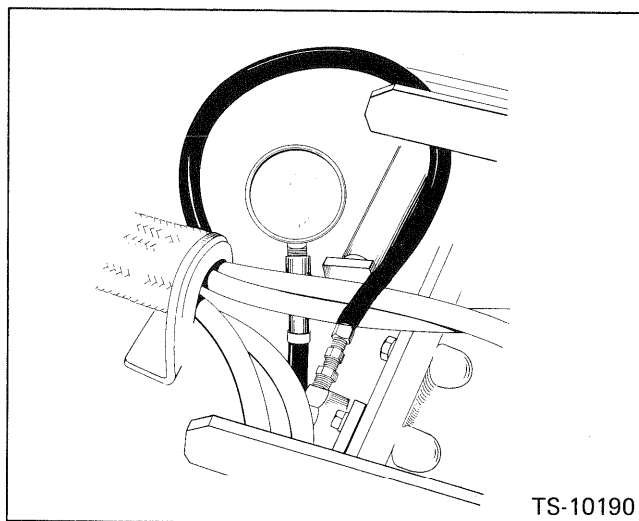

Fig. 10-4 Oil Cooler Out Pressure Drop Check
2. Install a gauge at the converter OUT pressure port located below the sender unit on the rear of the converter. Fig. 10-4
1. Install a tachometer on the engine. Install gauges at the converter OUT pressure check point, (this reading is the same as the oil cooler IN pressure, see NOTE above) and at the oil cooler OUT pressure check point located behind the operator's seat on the right hand cooler hose at the back of the transmission. Fig. 10-4